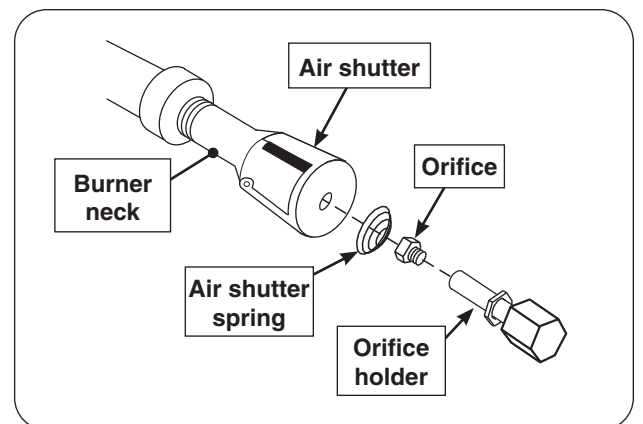

Fig. 32-3 Burner replacement diagram
4. To re-install, position the air shutter spring and air shutter over the orifice holder fitting, between the burner and the heat shield, in the order and position shown in Fig. 32-3. Do for both burner necks.